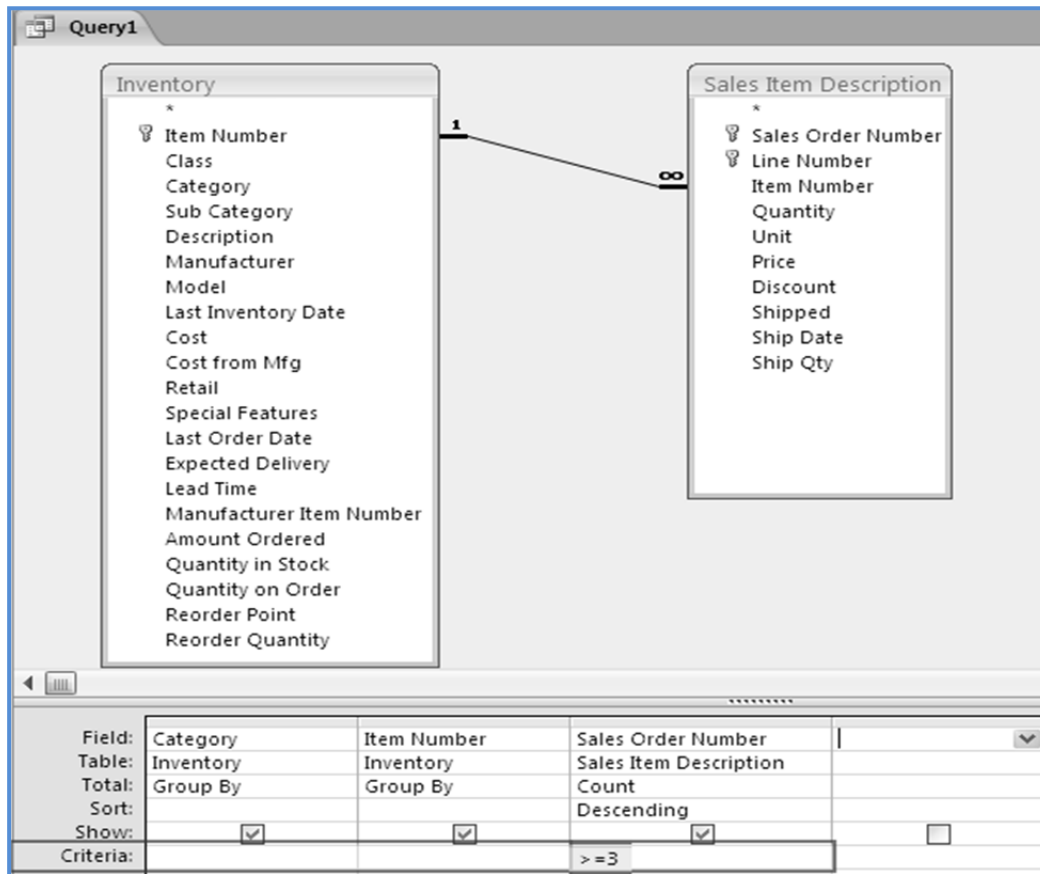

Fig. 1.2.36: Insert Criteria for Sales Order Number
2. In the column *Sales Order Number*, type ">=3" in the Criteria tab as shown in Fig. 1.2.36.